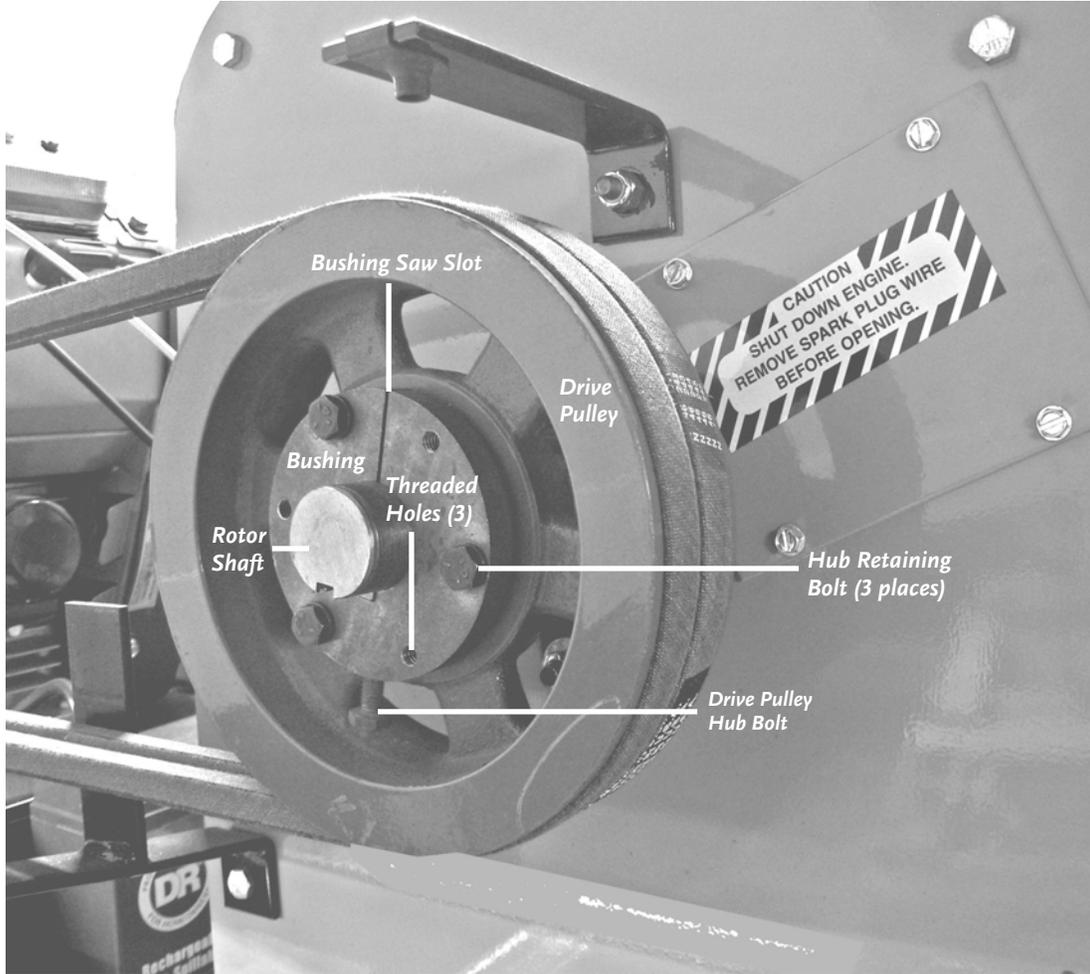

Figure 16
- a) Loosen the Drive Pulley Hub Bolt with a 7/16" Wrench (**Figure 16** on page 37).
- b) Remove the three (3) Hub Retaining Bolts using a 7/16" Wrench (**Figure 16** on page 37).
- c) Reinstall the three (3) Bolts in the unused Threaded Holes (**Figure 16** on page 37) adjacent to the three (3) Hub Retaining Bolt holes.
- d) Slowly tighten the Bolts evenly and alternately (1/4 to 1/2 turn) starting with the Bolt farthest from the Bushing Saw Slot (this acts as a Hub puller) until the Bushing releases from the Rotor Shaft (**Figure 16** on page 37).